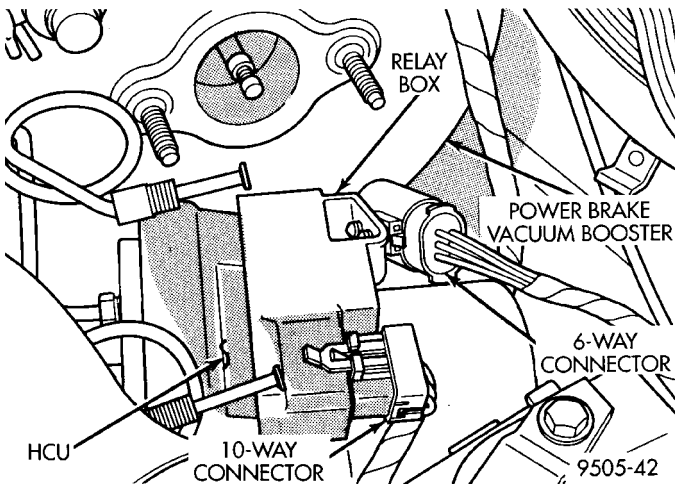

Fig. 15 Electrical Connections To HCU And Relay Box
(7) Disconnect the 6 way connector from the HCU wiring harness and 10 way connector from the relay box located on the HCU (Fig. 15).
(9) Install vehicle wiring harness connectors onto the 10 way, and 6 way connectors, located on the relay box of the HCU (Fig. 15).